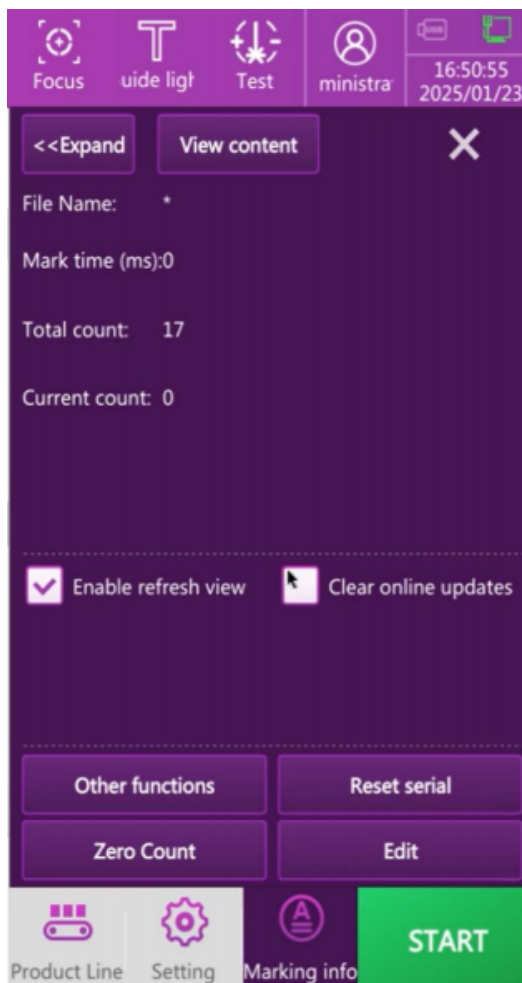

图 1-3
**Marking info:** Click the button, the pop-up interface as shown in Figure 1-3.